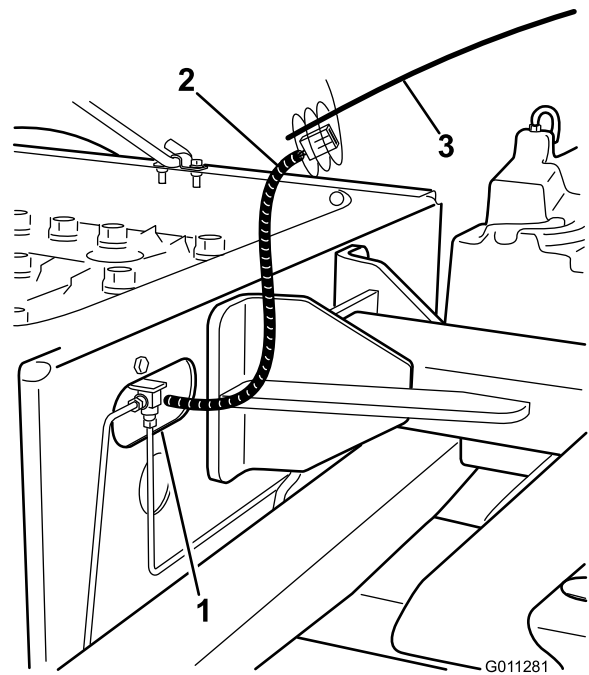

Figure 7
- Pass the harness through the opening in the forward wall of the frame box (Figure 7).
- Affix a stiff wire or fish tape to end of the wire harness terminated with plug connector to aid in the routing (Figure 7).